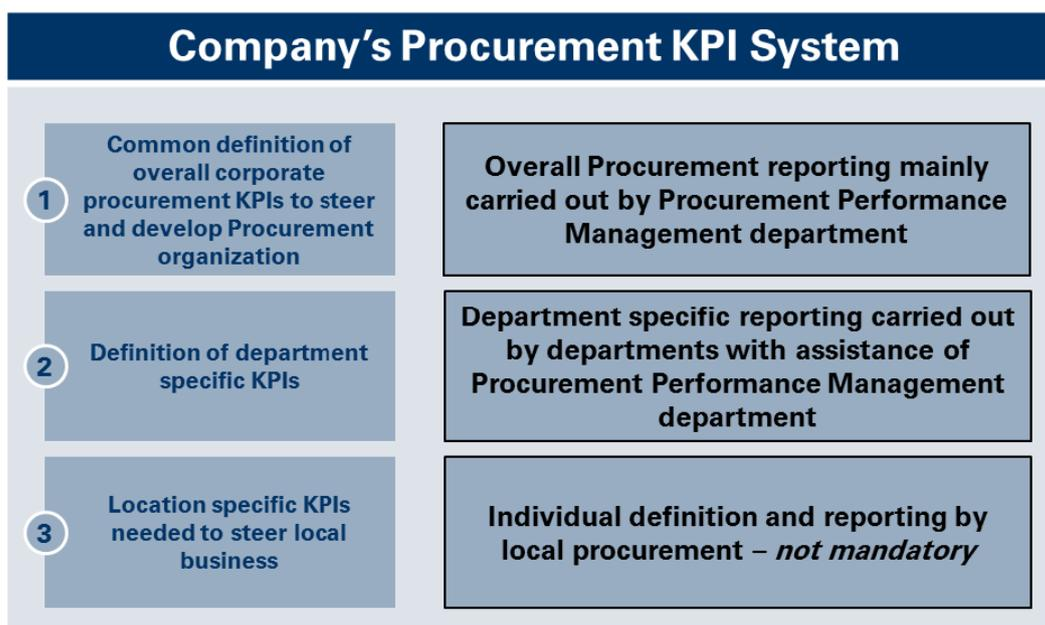

Figure 1: Defined levels for Key Figures and KPIs
- Figure 1: Defined levels for Key Figures and KPIs 9
The third set of KPIs are reported only on a local basis and are not common at all, e.g. that there exists no common understanding because the figures are so specific that they might only concern one local division. They should be used for internal steering and therefore adopted to local requirements. This is illustrated in Figure 1.